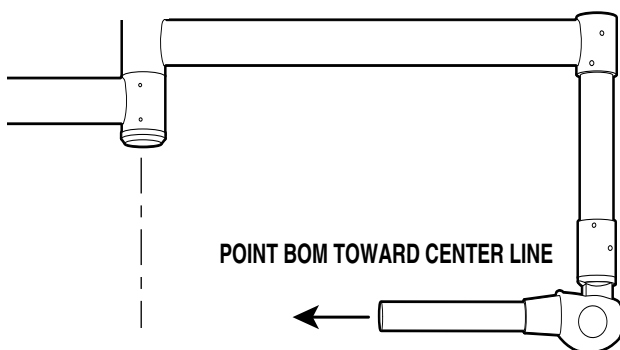
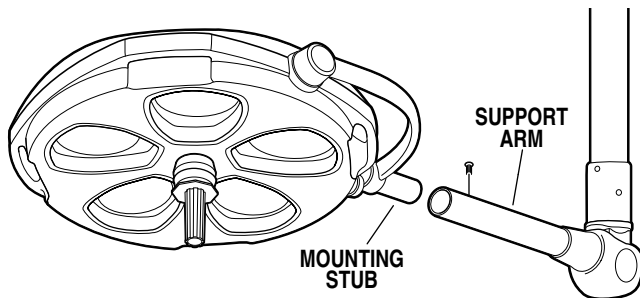

Figure 6.
Figure 9. Model 23 or 19 Lighthead Installation (ST23 Lighthead shown)
a. To make it easier to install the lighthouse, locate the support arm of the balance mechanism so that it points inward toward the ceiling cover. This will prevent the radial arm from moving when installing the lighthouse. See figure 6.
a. To make it easier to install the lighthead, locate the support arm of the balance mechanism so that it points inward toward the ceiling cover. This will prevent the radial arm from moving when installing the lighthead. See figure 6.
b. Remove the four (4) screws from the lighthead mounting stub.
c. Install the lighthead mounting stub into the support arm and secure with the screws previously removed. See figure 9.